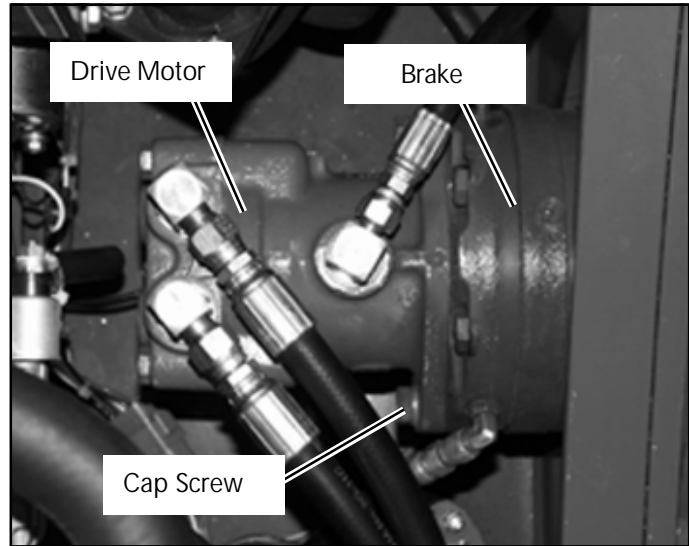

Figure 3-10: Rear Axle Assembly
3.8 Hydraulic Manifold (Figure 3-10)